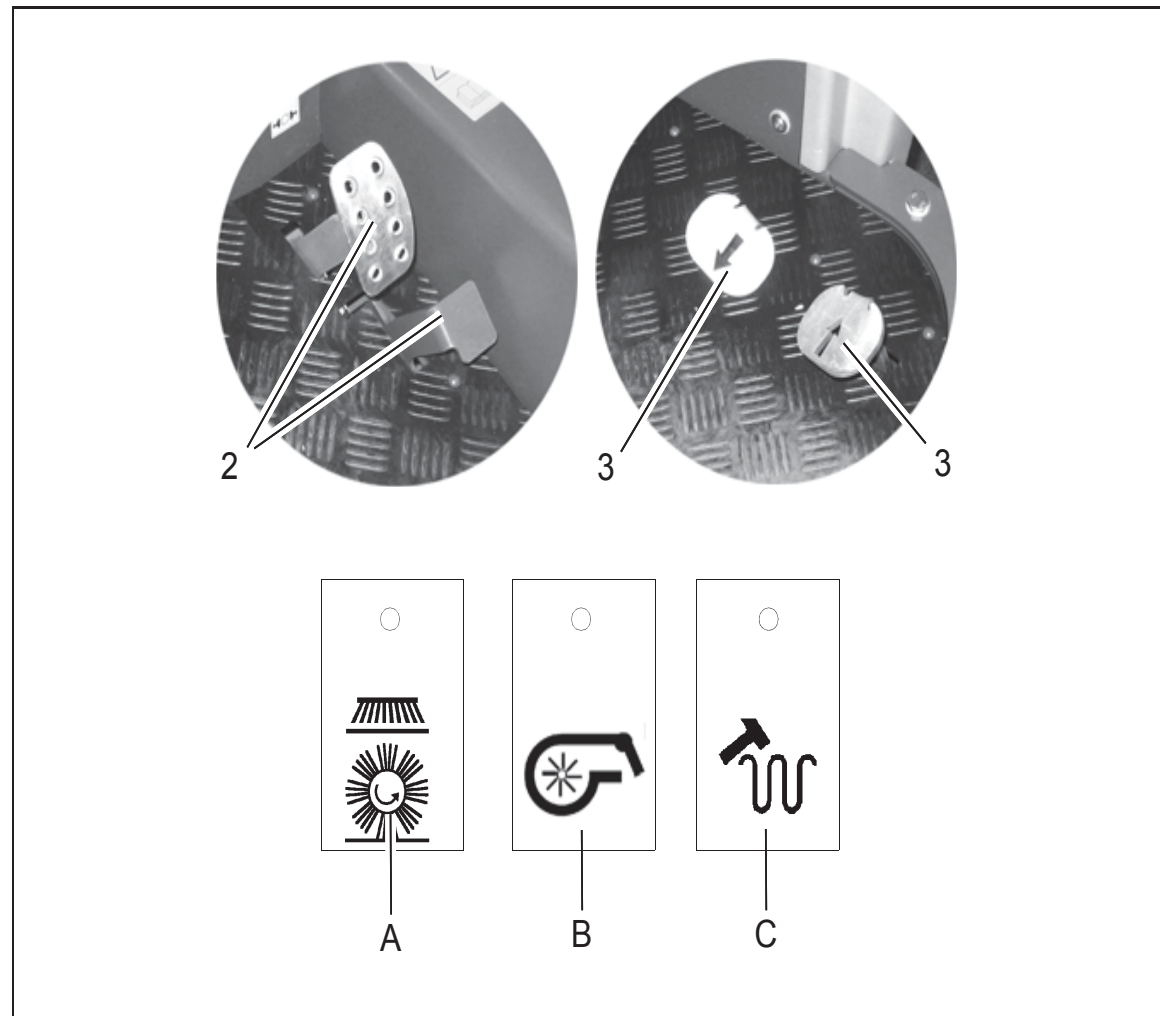

Fig.6
3. Switch on the sweeping function with the button (Fig. 6/A). The rotary brush, side brush and suction turbine are activated.
4. In the case of damp waste, switch the suction turbine off with the button (Fig. 6/B).
5. Release the parking brake (Fig. 6/2) to its end position.
6. Slowly press the accelerator (Fig. 6/3) until the required driving speed is reached.
7. It is recommended to clean the filter regularly. To do this, actuate the button (Fig. 6/C).